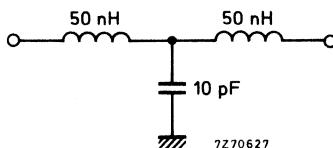

Fig. 9
- A low-pass filter (Fig. 9) with a cut-off frequency of about 300 MHz has to be inserted between the v. h. f. aerial terminal of the tuner and the aerial terminal of the receiver. Television receivers with a common v. h. f. /u. h. f. connector in combination with a low-pass/high-pass splitter ¹⁾ may not need this additional filter.